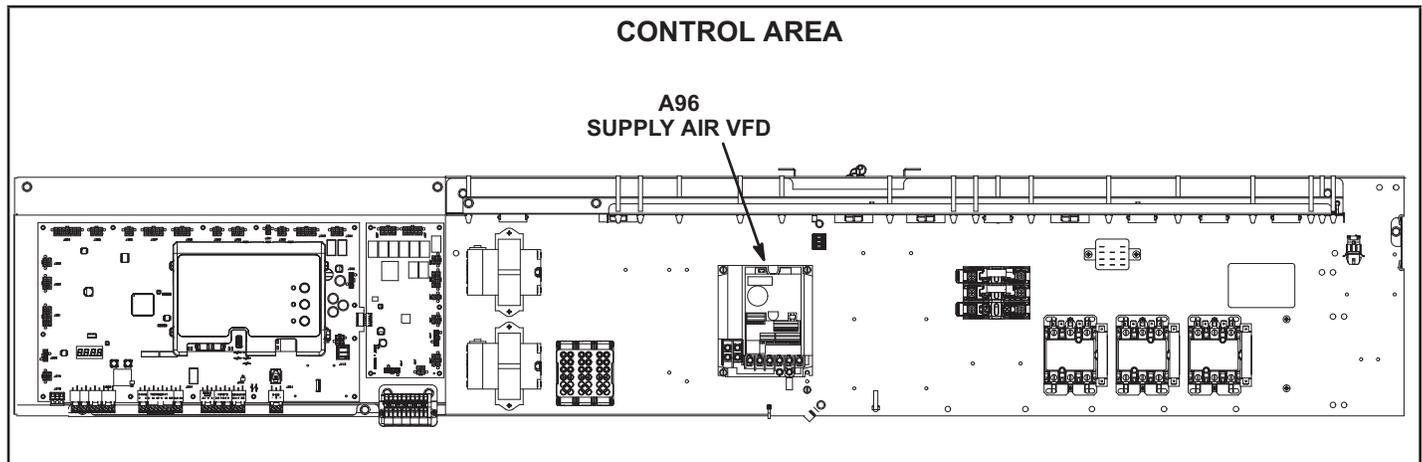

FIGURE 26
Units contain a supply air blower equipped with a variable frequency drive A96 (VFD) which varies supply air CFM. The supply air VFD (A96) is located in the control area. See figure 26.
- 4 - Locate the A55 Unit Controller. Refer to FIGURE 26.